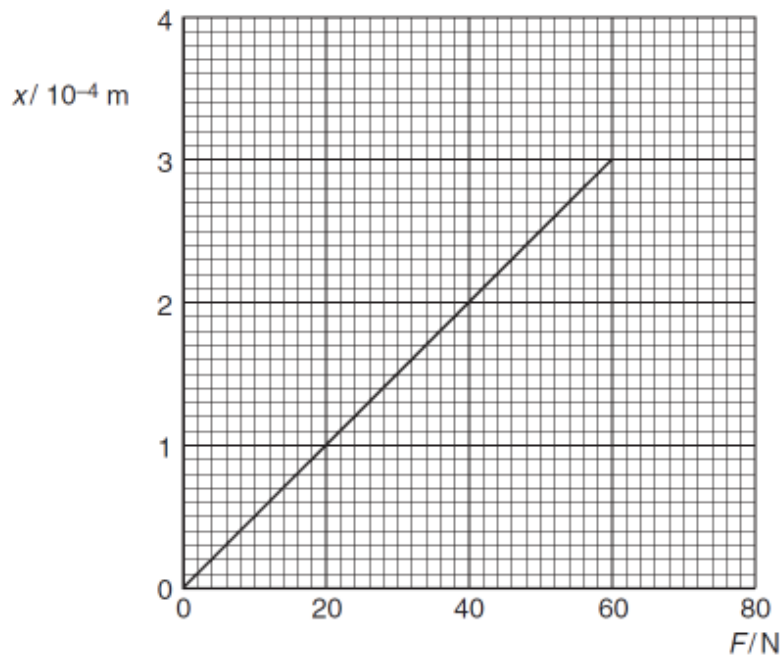

Fig. 4.1
- 4 A glass fibre of length 0.24 m and area of cross-section $7.9 \times 10^{-7} \text{ m}^2$ is tested until it breaks. The variation with load F of the extension x of the fibre is shown in Fig. 4.1.
- (b) Use Fig. 4.1 to determine, for this sample of glass,